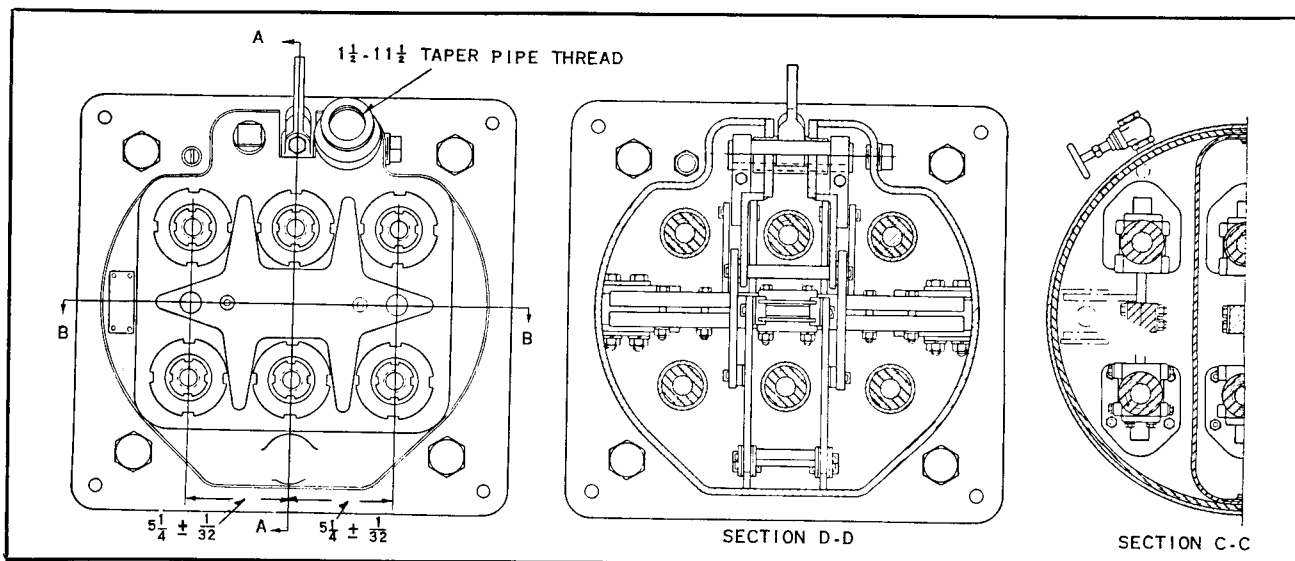

FIG. 5. Top and Sectional Views for Types B-20-B and 138-B-250 Circuit-Breakers
10. With the tank removed, fill it with oil to within two inches of the top, or if more desirable, the oil can be added through the filling plug located in the breaker top after the tank has been bolted in place, Fig. 5. Be sure to replace filling plug and see that tank is drawn up even and tight all around, otherwise oil may leak or be forced out.